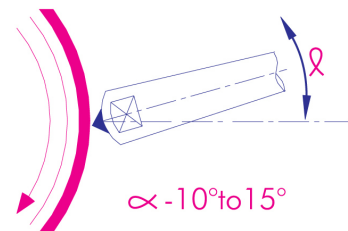

Fig: 2
- 👉 Incline Tool 10° to 15° to radius of wheel in the direction of wheel rotation to avoid dulling of the Diamond point. (Fig: 2)